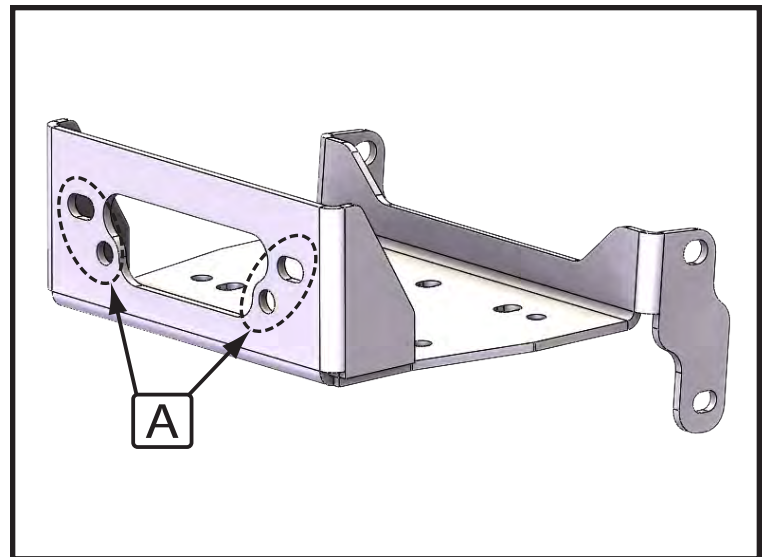

Figure 2: Plow Mount Bolt Locations.
1. Remove OEM skid plate by removing bolts (A) as shown in **Figure 2**.
2. Set plow mount (1) onto skid plate and insert bolts (7.1) into holes (B) positioning plow mount onto skid plate in the proper location as shown in **Figure 2**.
3. For a reference, measure 1 5/16" from bottom of plow mount (1) to the lower feature of the skid plate as shown in **Figure 2**.
4. Mark skid plate at holes (C) with a marker using plow mount (1) as a template as shown in **Figure 2**, remove plow mount (1) from skid plate and drill through the skid plate on the center of each of the four marks using a 1/2" drill bit. NOTE: Drilling a larger hole or slotting the hole may be needed for more adjustment in plow mount (1).
2. Install the plow mount plate using the 1" flanged bolts, placing bolts through holes (A) in the winch mount plate. See **Figure 2 and 3**.
2. Install the Plow Mount Plate using the 1" Flanged Bolts by bolting through the holes ("A" for standard width, "B" for wide) in the Winch Mount Plate. See Figure 2 and 3.
"Figure 2" Plow Mount Bolt Locations.
“Figure 2” Spring Assembly
2. Install the plow springs (Item 7.3) into the upper rear holes of the UTV cradle as shown in **Figure 2**. Attach eyebolts (Item 7.5.8) to the ends of the springs and secure them to the blade gussets using nuts (7.5.9) and washers (7.5.10). Leave the spring tension loose at this time.